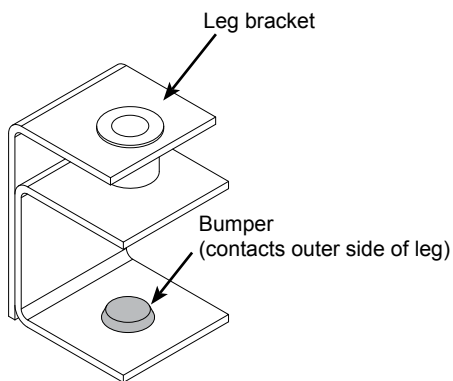

Figure 3A
1. Apply the adhesive-backed bumper to the bracket as shown. **Figure 3A.**